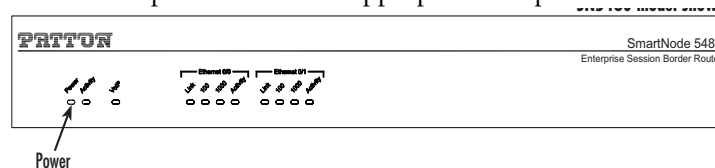

Figure 7. SN5480/5490 Power LED
The 5400 has the option of an internal or external Internal AC Power Supply, or an internal or external Verify that the green Power LED is lit (see figure 7)..
4. Verify that the green *Power* LED is lit (see figure 7).